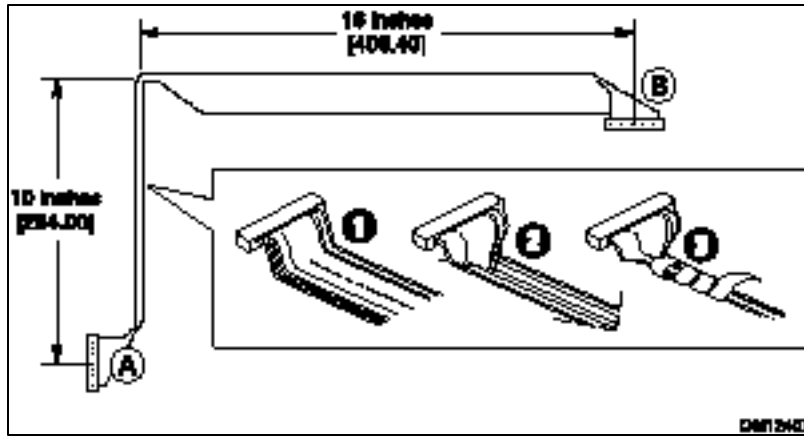

Figure 24. Preparing a SCSI Cable: Tape Drive to On-board SCSI Controller
2. Flatten the cable and fold it in half beginning about 1-inch from the tape drive end (see Figure 24, A, on page 39). Continue folding for a distance of about 10-inches.
2. Flatten the cable and fold it in half beginning about 1-inch from the tape drive end (see Figure 24, A). Continue folding for a distance of about 10-inches.